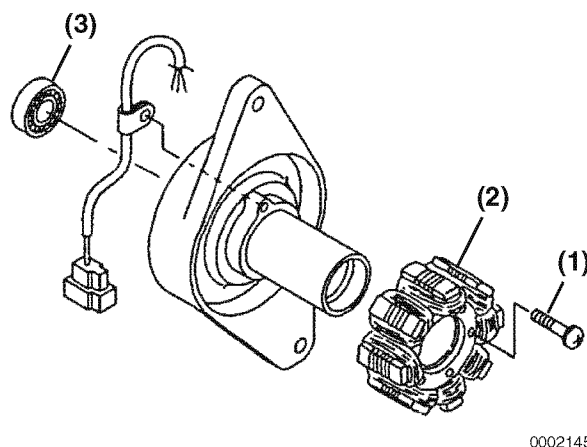

Figure 12-26
4. Remove the screws (Figure 12-26, (1)) and the stator assembly (Figure 12-26, (2)).
5. Remove the rear bearing (Figure 12-26, (3)).